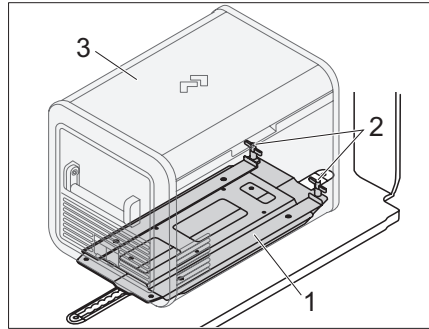

Fig. 81 Bracket (special equipment)
- ▶ Place the icebox (Fig. 81,3) in the bracket (Fig. 81,1).
- ▶ Attach the icebox with the toggles (Fig. 81,2).